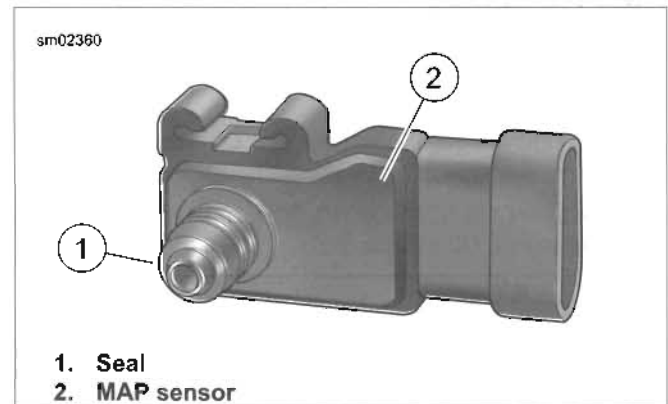

Figure 4-26. MAP Sensor
See Figure 4-26. Prior to installing the original sensor, inspect the seal (1). Worn or damaged seals could cause vacuum leaks. Install **new** seal if necessary.